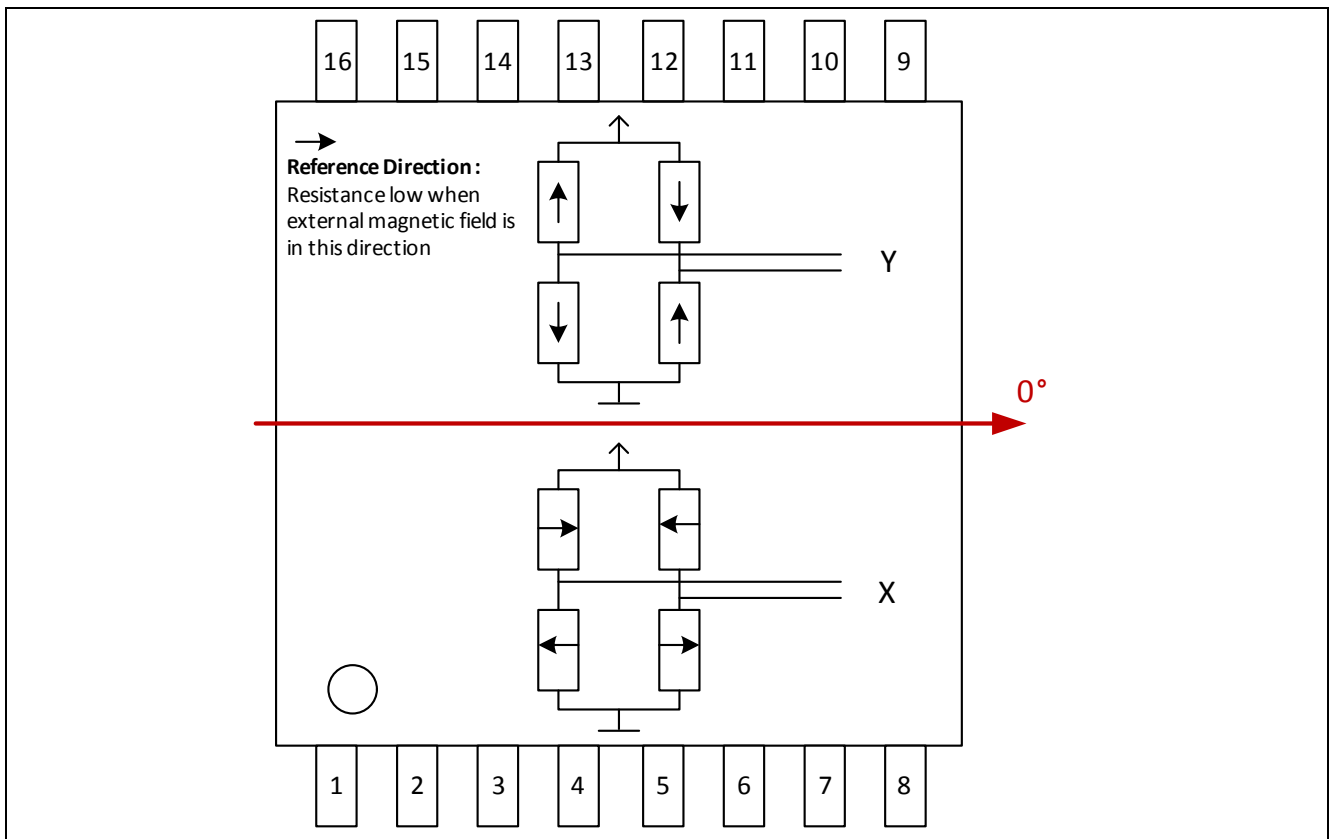

Figure 1-2 Sensitive bridges of the GMR sensor (not to scale)
**Attention:** Due to the rotational placement inaccuracy of the sensor IC in the package, the sensors  $0^\circ$  position may deviate by up to  $3^\circ$  from the package edge direction indicated in Figure 1-2.
In Figure 1-2 the arrows in the resistors represent the magnetic direction which is fixed in the reference layer. If the external magnetic field is parallel to the direction of the Reference Layer, the resistance is minimal. If they are anti-parallel, resistance is maximal.